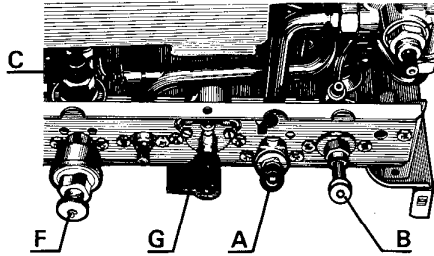

Fig. 33
- 2) Open mains cold water inlet valve (fig. 33) (A)